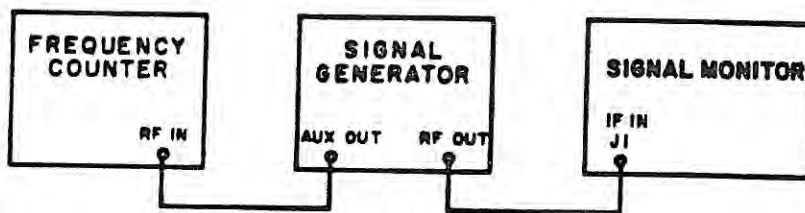

Figure A-1. Test Setup, Signal Monitor Performance Tests
- (1) Connect the equipment as shown in Figure A-1.